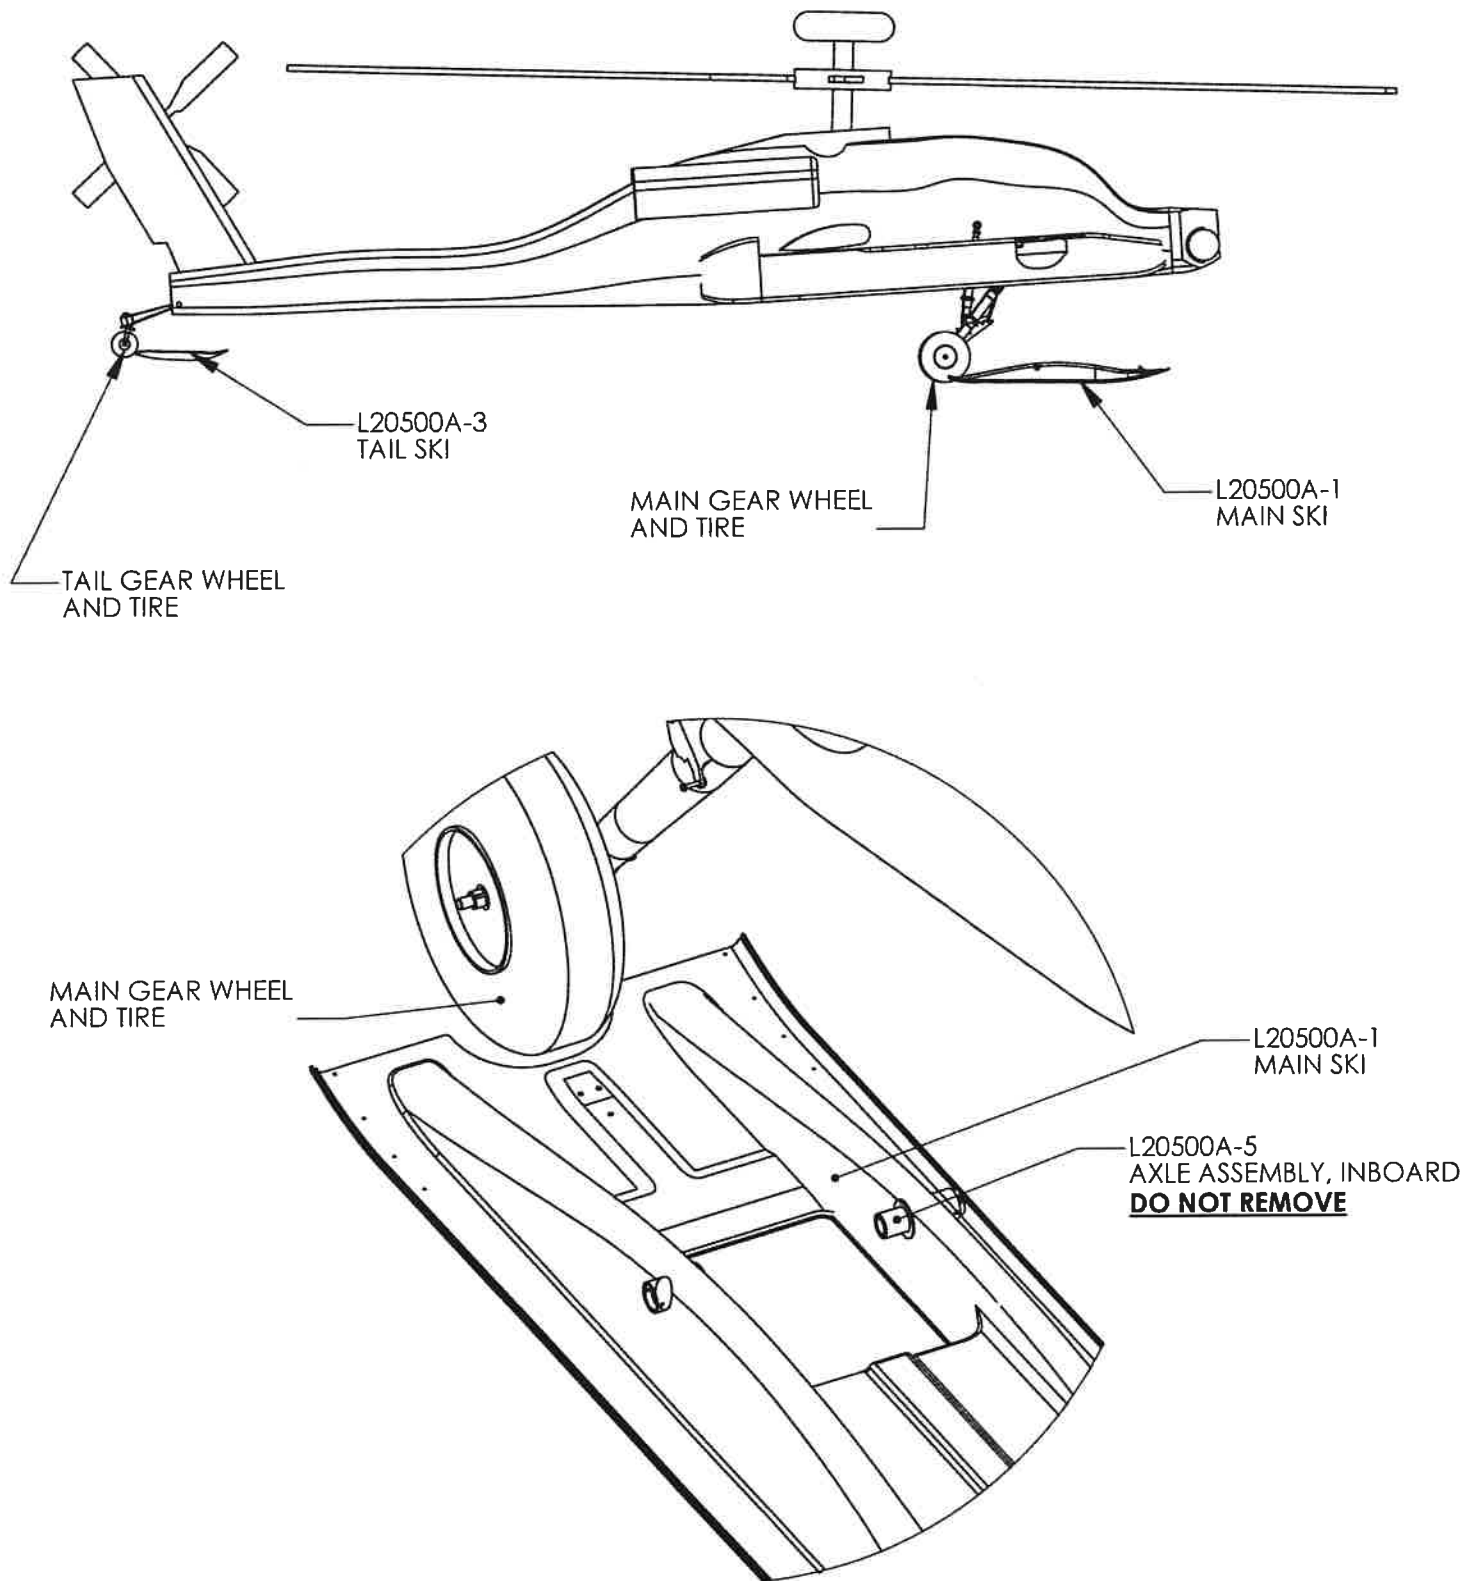

Figure 5.0
25. Center Tail Ski in front of Tail Gear Wheel. *See Figure 5.0*
37. Center Main Skis in front of Main Landing Gear Wheels *See Figure 5.0*